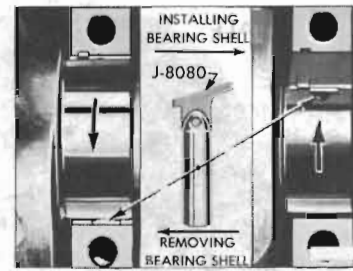

Figure 60-25 - Removing and Installing Crankshaft Bearing Upper Shell
7. Remove upper bearing shell by inserting Bearing Shell Remover and Installer J-8080 in oil hole in crankshaft. Then slowly rotate crankshaft so that tool rotates the shell out of place by pushing against end without tang. See Figure 60-25.
11. Rotate bearing shell into place as far as possible by hand, then insert Installer J-8080, in crankshaft oil hole and rotate crankshaft to push shell into place. See Figure 60-25.